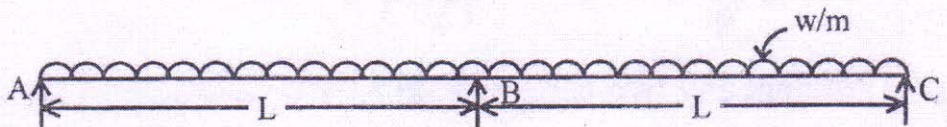

Fig. 1
- (a) A beam ABC of length $2L$ rests on the three supports equally spaced and is loaded with u.d. ℓ , ' w '/unit length through out the length of the beam as shown in Fig. 1. Plot the B.M. and shearforce diagrams.